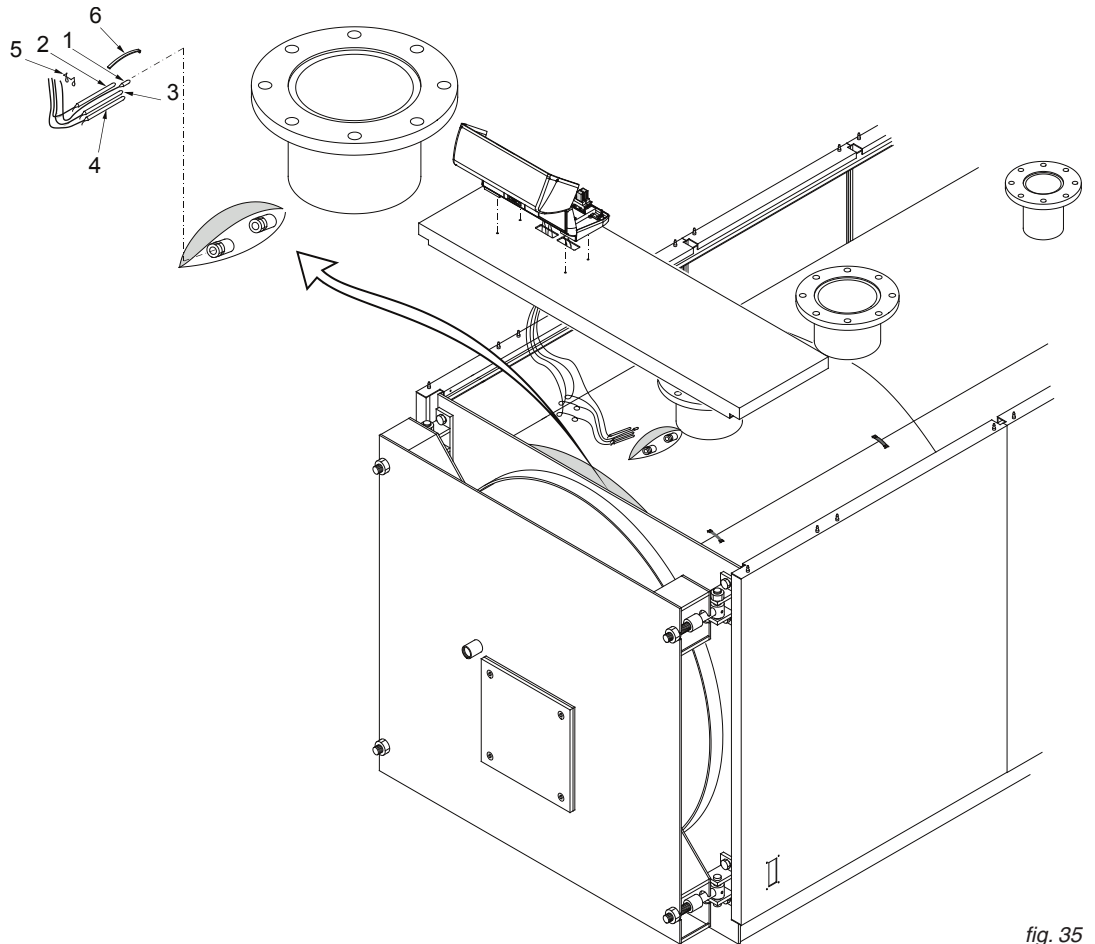

fig. 35
E) Insert into the conduits the bulbs of the instruments as indicated in fig. 35 and wire the panel board to the power line, to the burner and to any pumps, etc.
Following this sequence, insert the probes of the instruments in the bulb holder/s on the top of the boiler (Ref. fig. 35): of the thermometer (pos.1), of the working thermostat (pos. 2), of the safety thermostat (pos. 3), of the minimum thermostat (pos. 4). It is recommended to insert the probes all the way in the relative bulb holders for best contact. Then insert the contact spring (pos. 6) and fasten the capillaries with the spring/s (pos. 5).